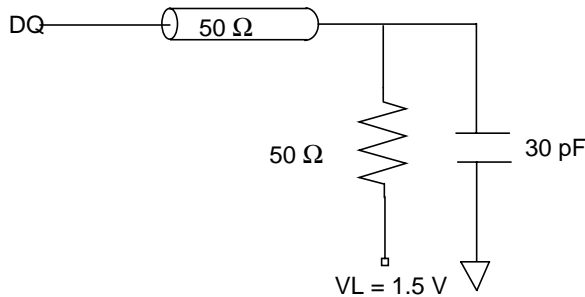

Fig. 1 Test Equivalent Load
1. See AC Test Loading figure 1 on page 7.